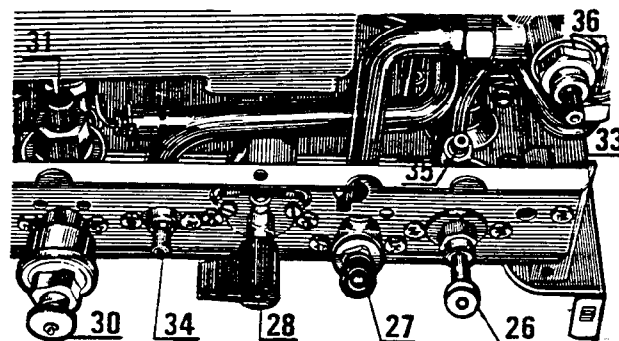

Fig. 16
- Turn off the gas by turning lever (28) (fig. 16).
- The heating flow is fitted with an isolating valve (26) (fig. 16) giving, in the above circumstances the ability to prevent the thermosyphon action in summer.
- Remove the drain screw (33) and (34) (fig. 16 and 17).
- Open the valve on the safety valve (30) (fig. 16 and 17).
- Open the drain plug (35) (fig. 16 or 17).
- Close the drain plug (35) (fig. 16 or 17).
- Close the valve on the safety valve (30) (fig. 16 or 17).
- Close the mains stopcock (27) (fig. 16 or 17).
- Unscrew the water regulator (36) (fig. 16 or 17), remove and clean the filter.
- Close the isolating valves on the flow and return to the heating system (26) and (31) (fig. 16 or 17) by pushing in and turning.
- Open the valve of the safety valve (30) (fig. 16 or 17).